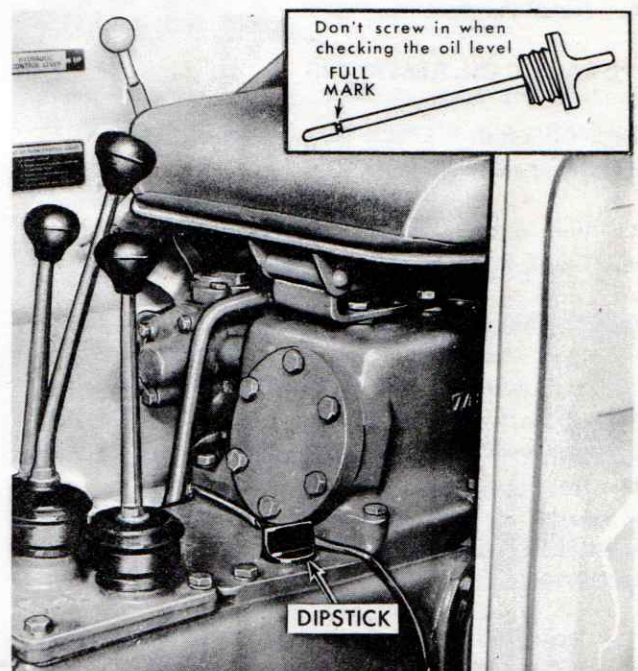

Figure 29
1. With the tractor standing level and the engine off, check the oil level with the dipstick, Figure 29.
2. Remove the dipstick, Figure 29 and fill transmission with new oil of the type specified, page 19.